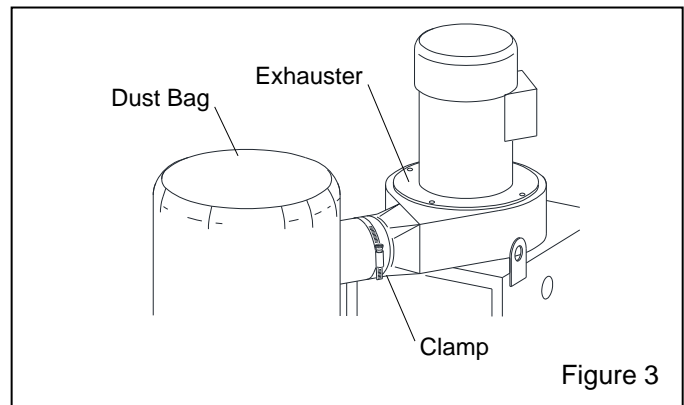

Figure 3
**2.4** Refer to Figure 3 and attach the dust bag to the exhauster outlet. Secure using the clamp provided.